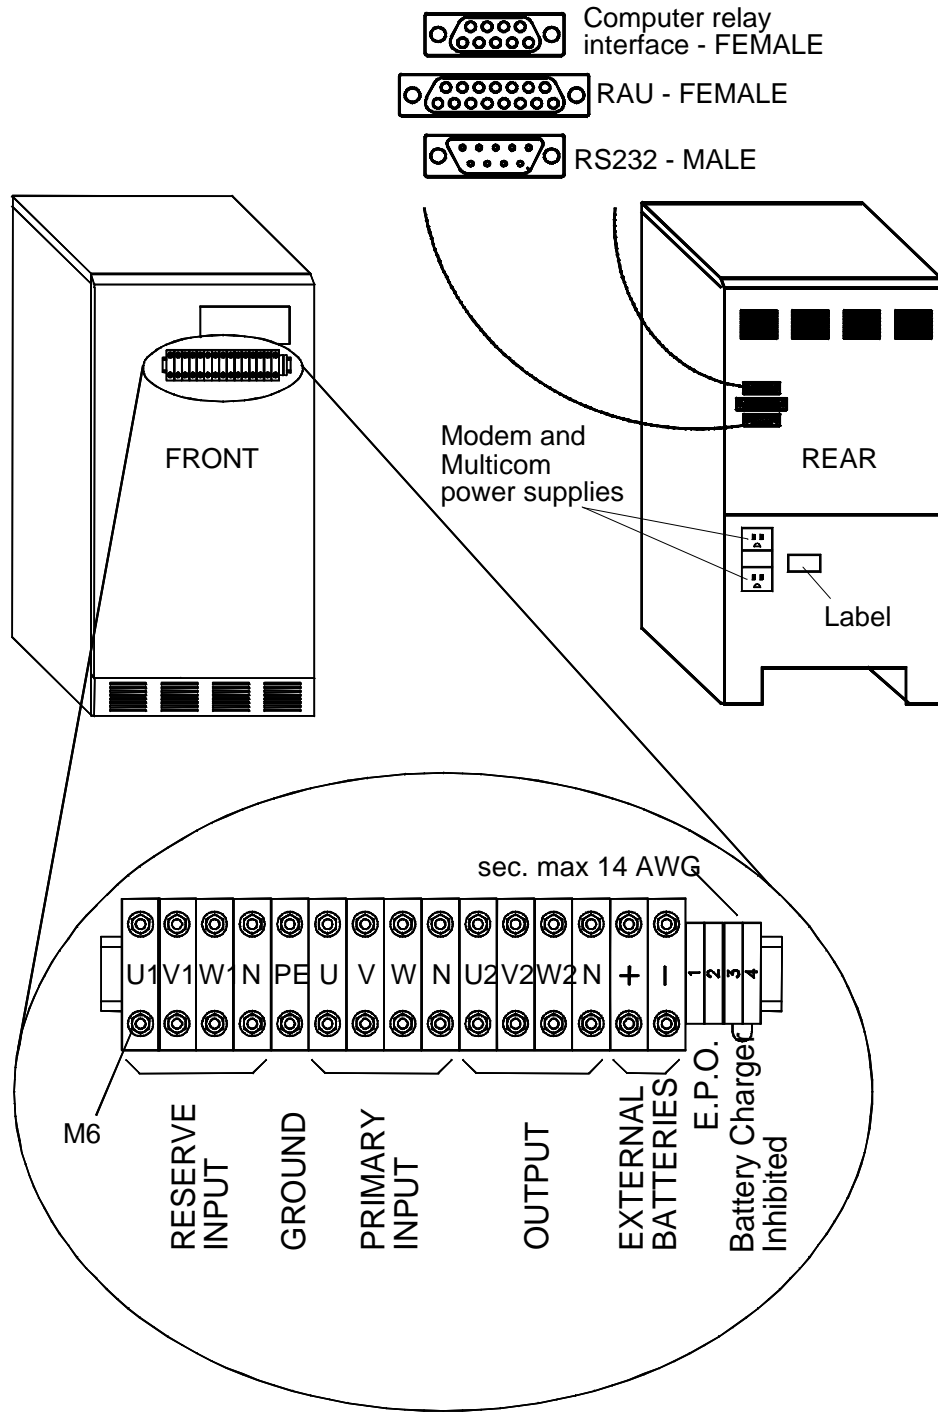

Figure 18 - 24 – 12/18/24kVA: Cable Connections
- c) This exposes the electrical terminal rail, see Figure 18